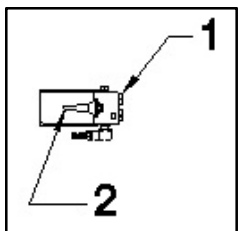

Fig. 3: Air control unit components
10. Connect the air supply (145 psi max) to the air inlet port of the air control unit (see Fig. 3 for connection).